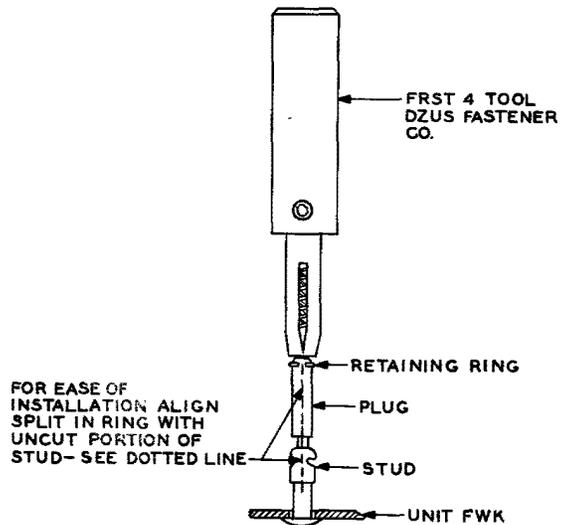

Fig. 7 - Method of Mounting Stud
- 5.04 Insert the plug of the DZUS FRST 4 tool into the stud. Place the XSC-115 retaining ring over the plug as shown in Fig. 7.